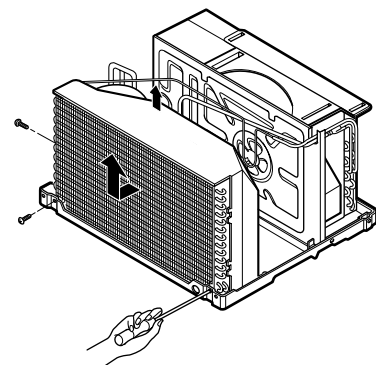

Figure 28
6. Re-install the component by referring to notes. (See Figure 28)